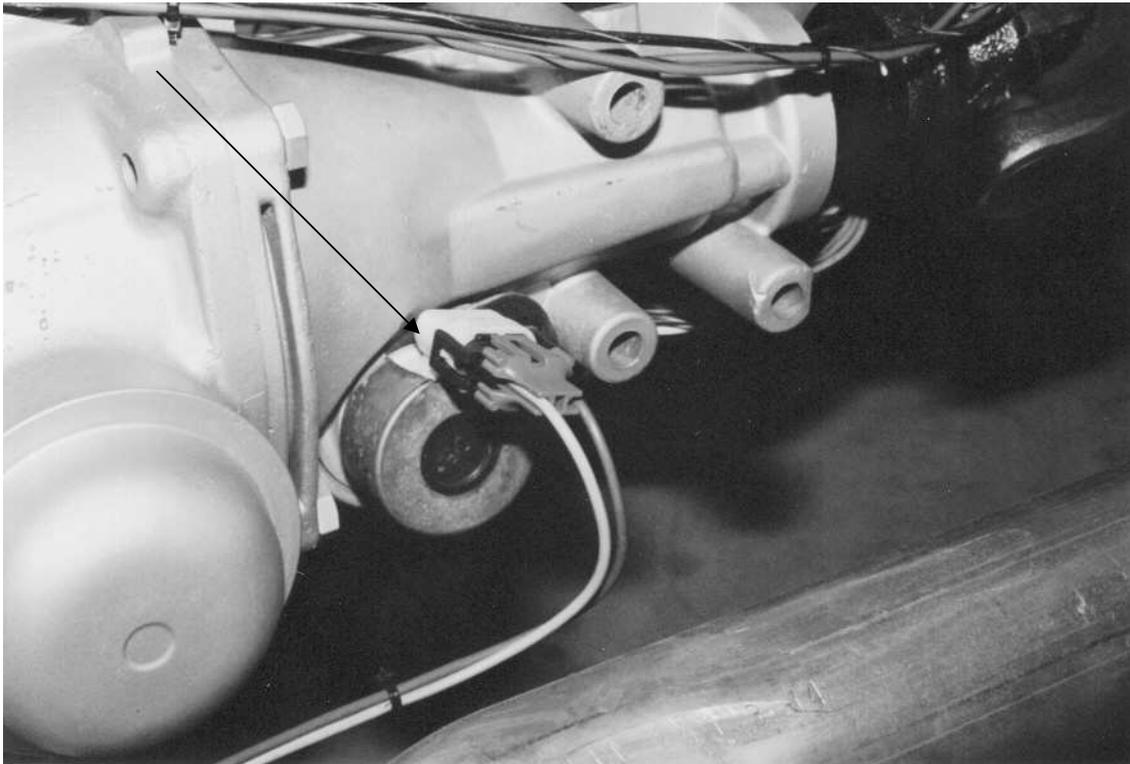

Figure 6.7 Vehicle Speed Sensor (700R4 or 4L60)
- 6.4.5** If using the 700R4 or 4L60 transmission that came with the engine, connect the connector for the vehicle speed sensor (VSS) to the Vehicle Speed Sensor. See **Figure 6.7**. If you are not using the factory sensor, you must add a 4-pulse speed sensor. The vehicle you are installing the engine into may already have one. You can also use a speedo-cable driven speed sensor from Painless Performance, part number 60116.